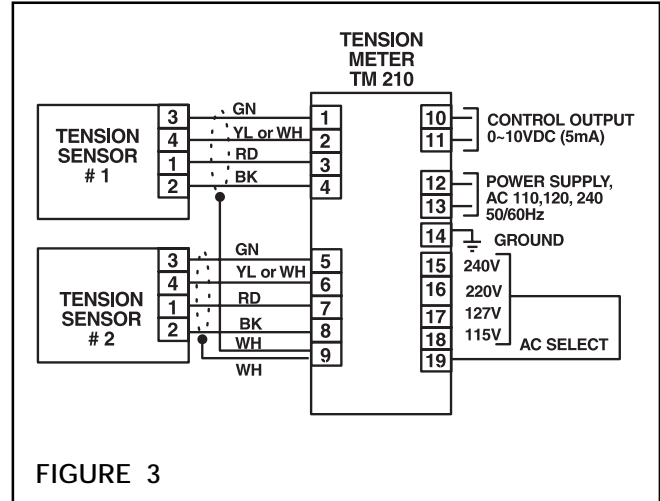

FIGURE 3
1. Connect MB Tension Sensors to Terminal Strip, using cables provided with the MB Tension Sensors (See Fig. 3).